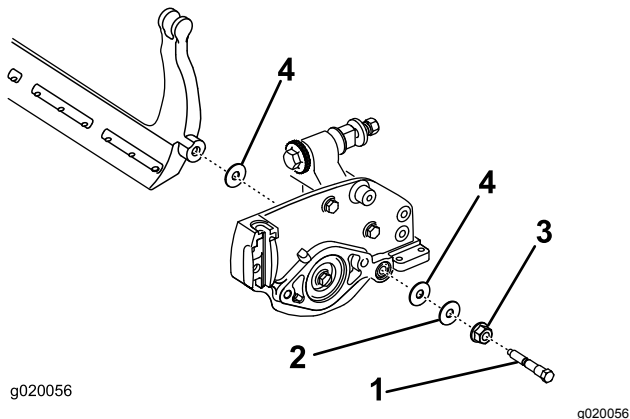

Figure 15
Account for the 2 nylon washers and 1 steel washer on each end of the bedbar (Figure 15).
3. Position a nylon washer on each side of the side-plate boss. Place a steel washer outside each of the nylon washers (Figure 15).